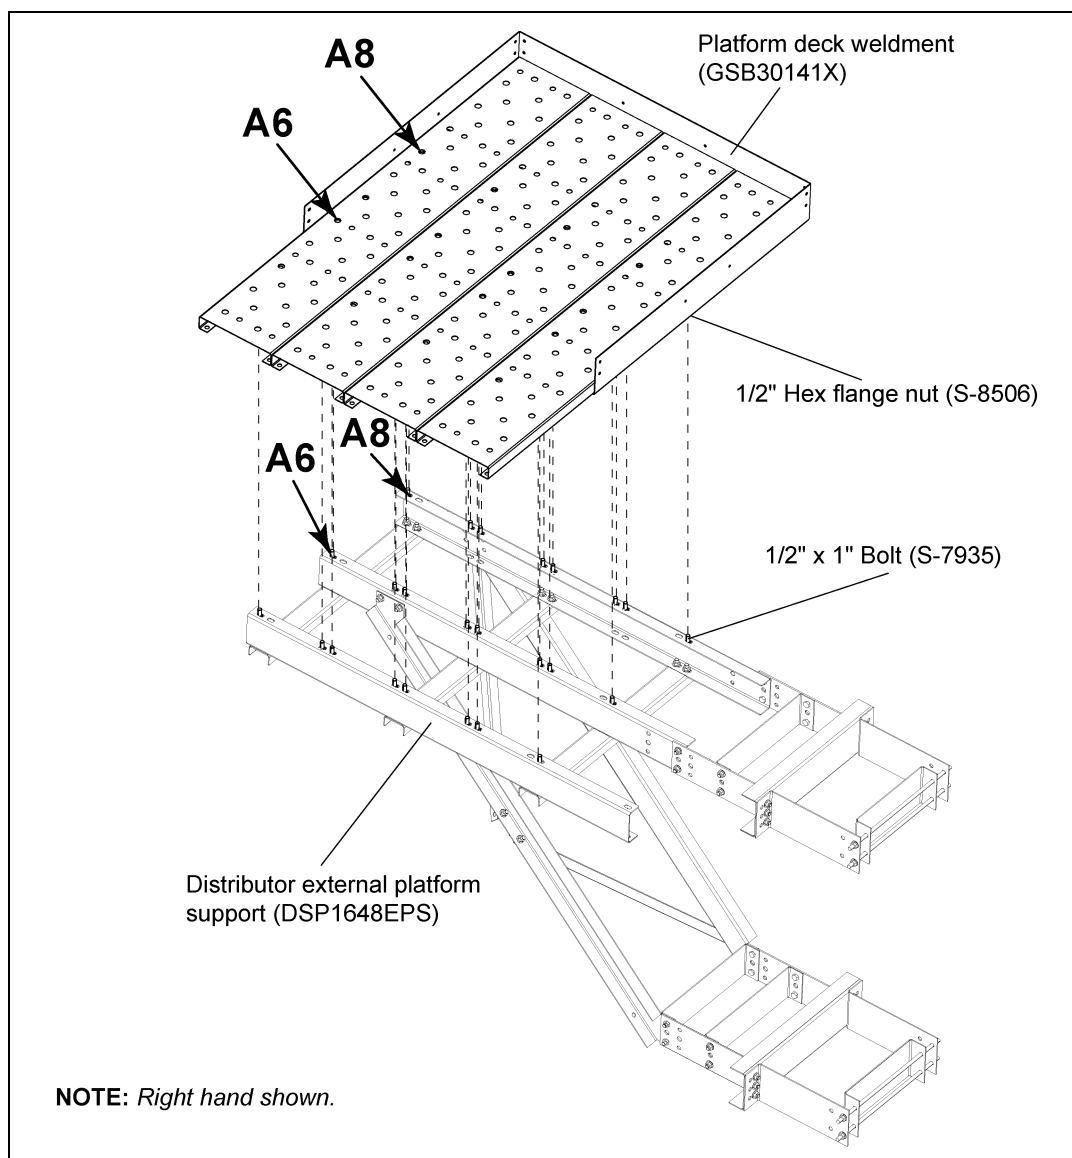

Figure 12I
2. Install platform decking weldment to the platform support channels using twenty four (24) 1/2" x 1" bolt and nuts. *(See Figure 12I.)*